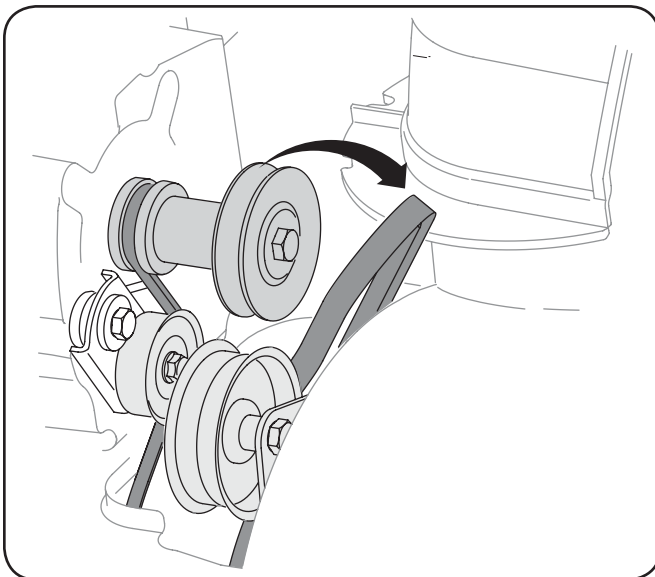

Figure 8-2
3. Roll the auger belt off the engine pulley. See Fig. 8-2.